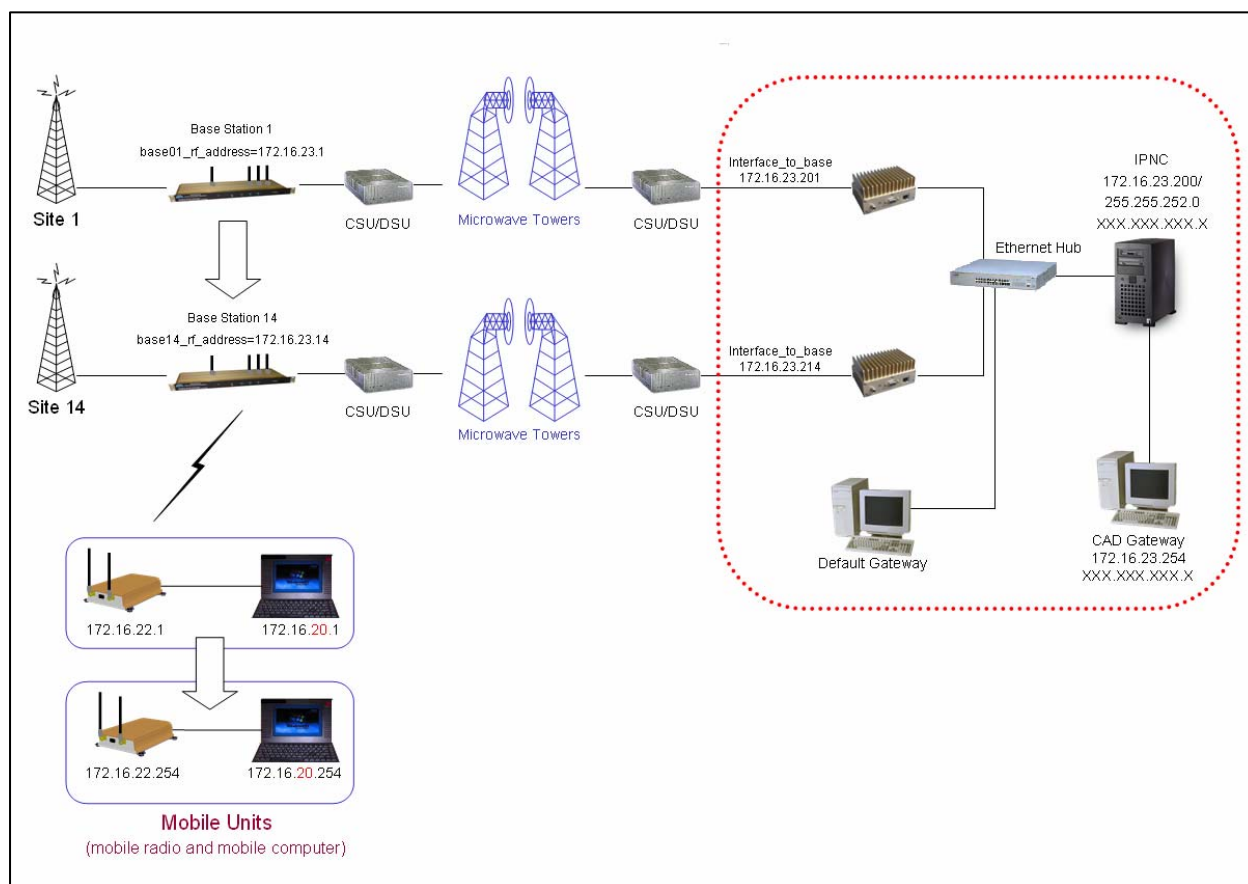

Figure 5: Basic Network Connection
Figure 5 depicts a basic network connection for a network inclusive of one (1) Internet Protocol Network Controller (IPNC) and a range of base stations, mobile radios, mobile computers, and additional components that interface with this sample system setup.